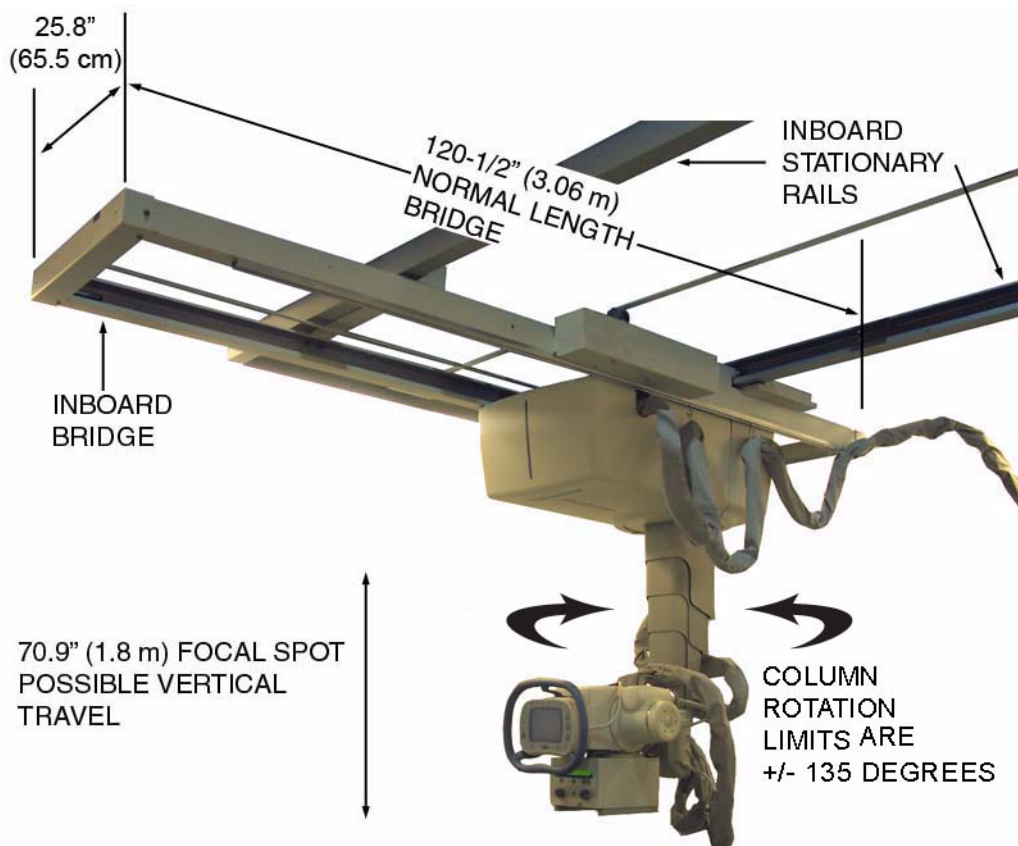
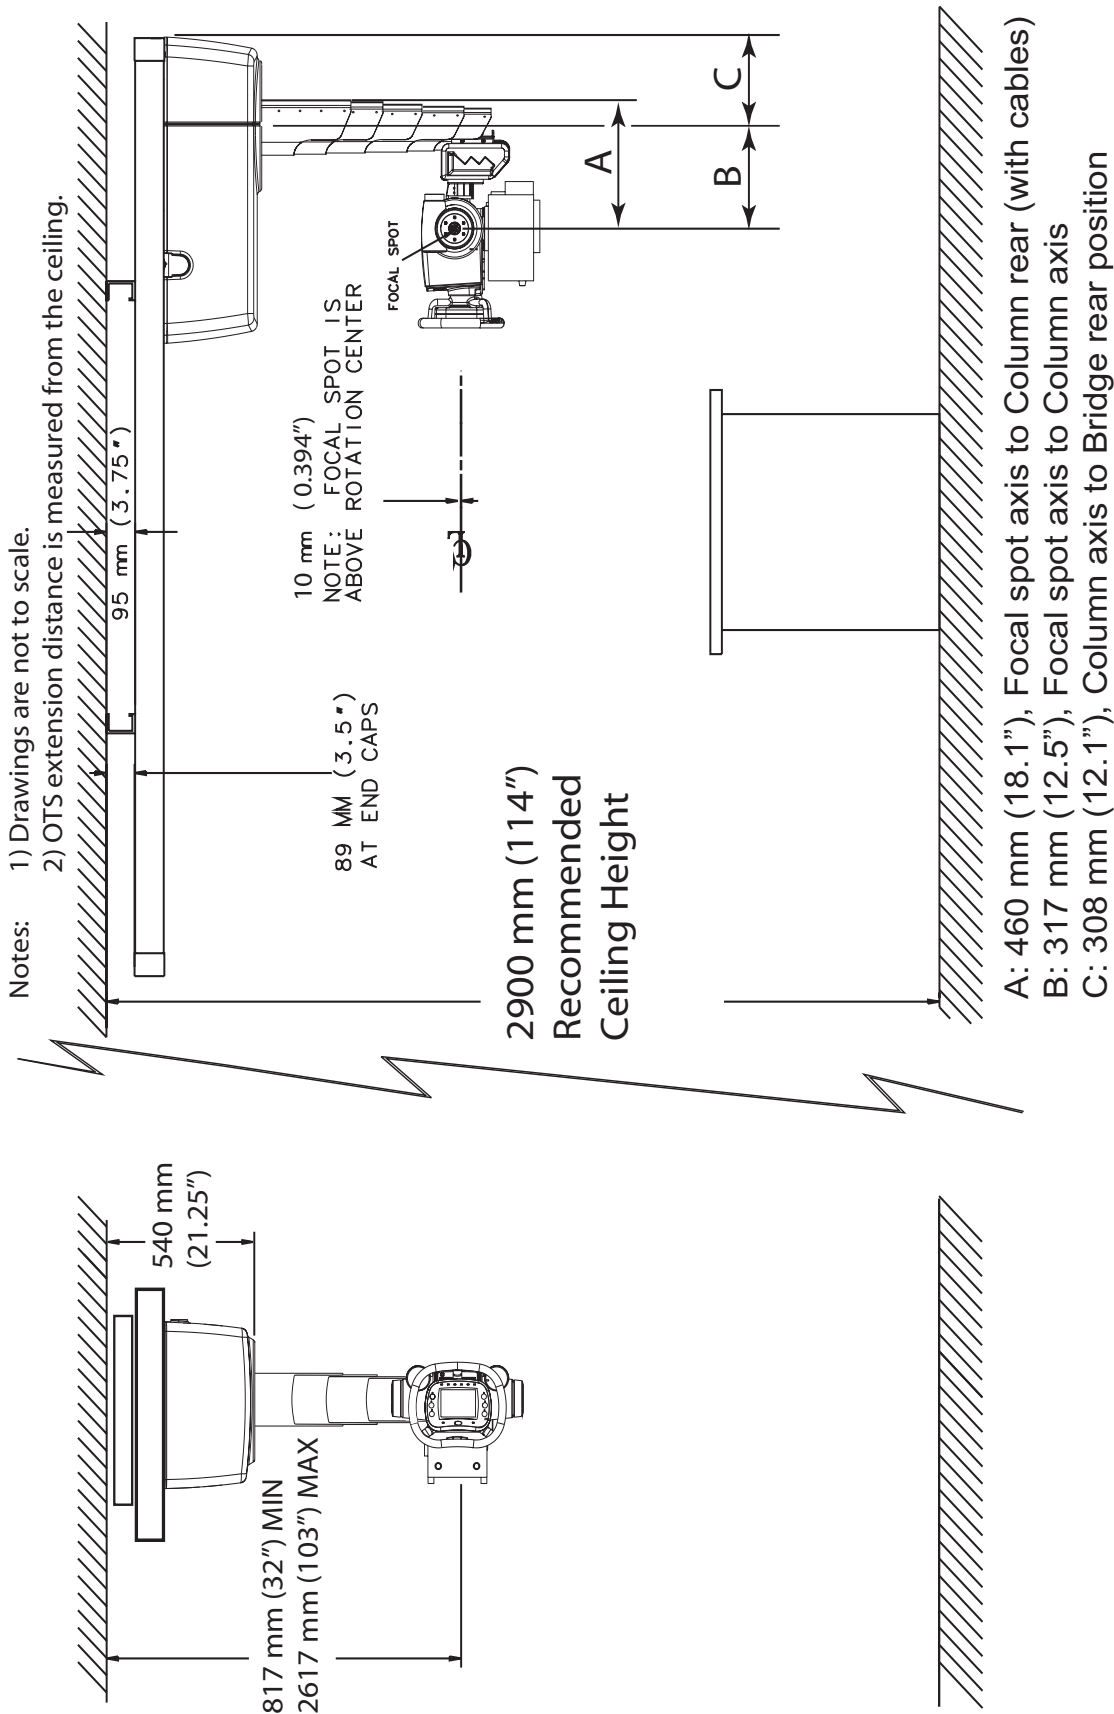
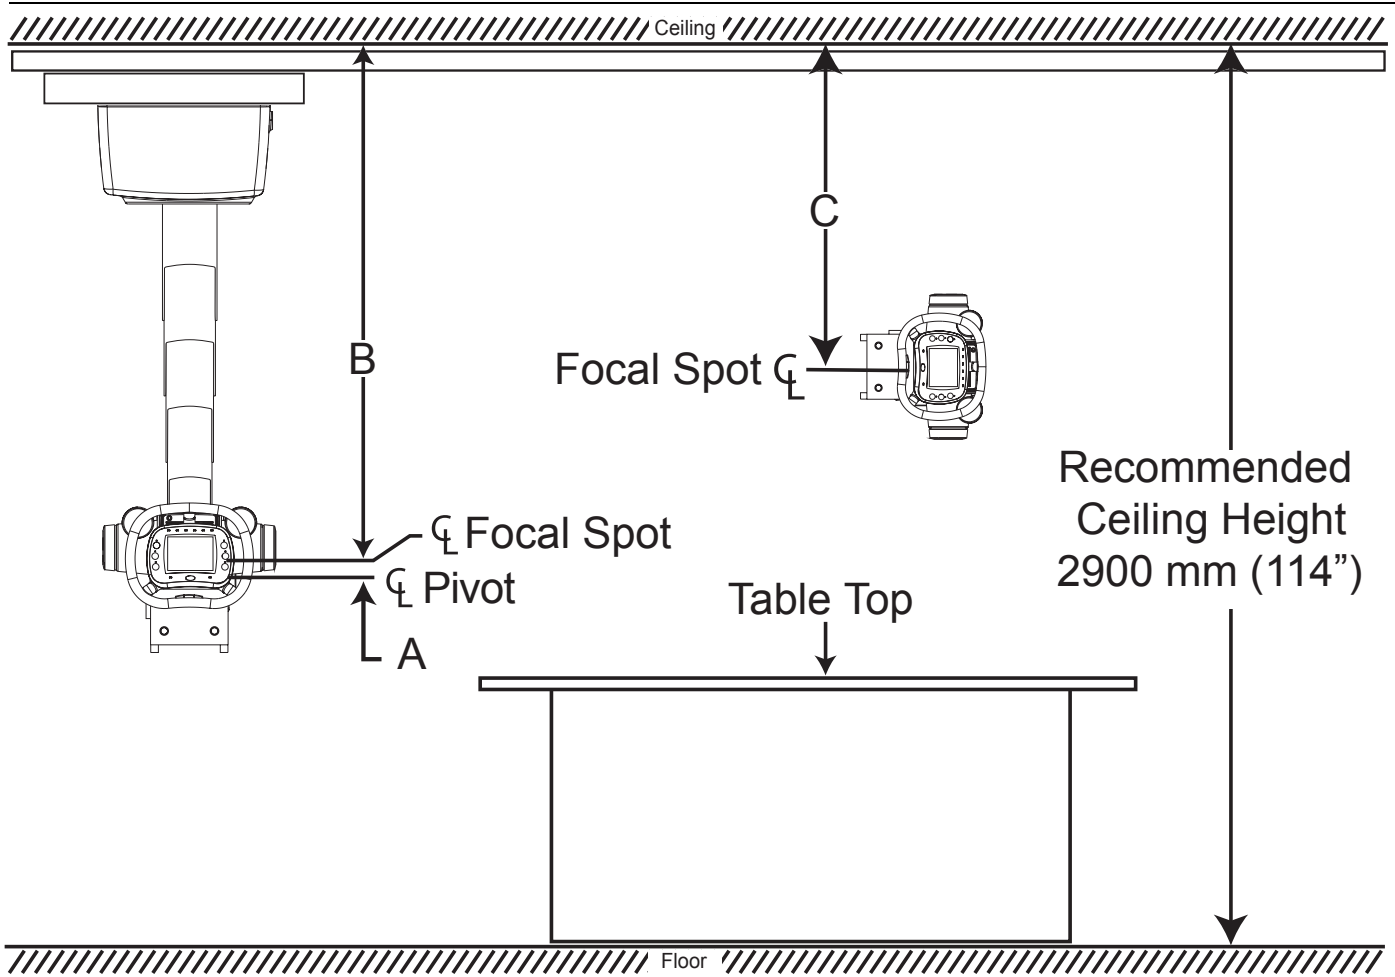

Figure 5-13 OTS Suspension
Figure 5-14 OTS Dimensions
Figure 5-15 OTS Suspension Side View (See Table 5-3)
- Overhead Tube Suspension (OTS) - Figure 5-13 through Figure 5-17.
Figure 5-13 shows basic overall dimensions for an OTS Suspension. Figure 5-14 through Figure 5-15 give layout dimensions for a typical OTS Suspension System. The equipment arrangements shown are generally preferred since they result in good utilization of equipment for the most commonly used procedures.
Table 5-3 OTS Suspension Vertical Travel Limits (See Figure 5-15)